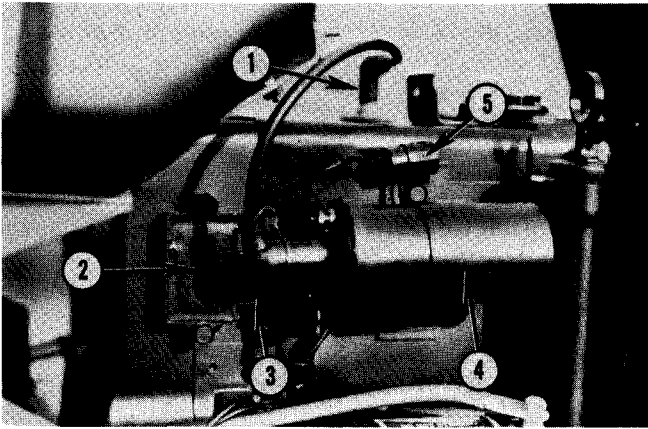
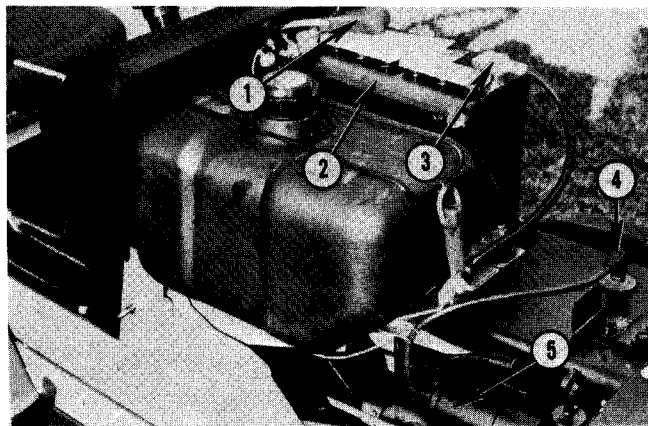

Fig. 11 — Rectifier-Regulator
Fig. 12 — Battery
2. If battery loses its charge and requires jumping, make sure alternator is disconnected. To disconnect, pull connector, No. 3, Fig. 11, from rectifier-regulator, No. 2. Failure to do so can cause damage to alternator when battery is jumped. When using a booster battery, always connect cables positive (+) to positive, and negative (-) to negative, Fig. 12. Battery posts are marked. If battery requires charging, always remove from Tractor. Reconnect plug in rectifier-regulator after engine is started.
BATTERY — FIG. 12